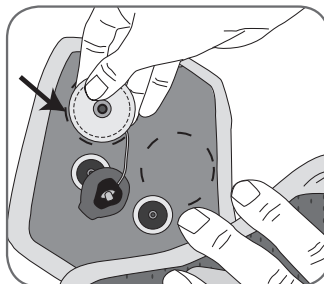

Figure 9-9. Attaching the new L300 electrode bases.
4. Attach the new L300 electrode bases where the previous bases were attached. See Figure 9-9.